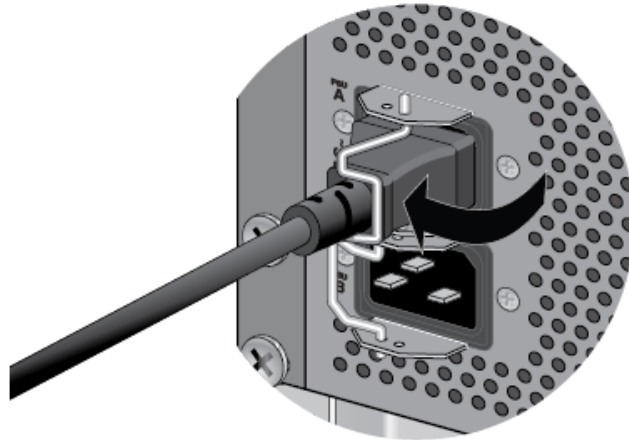

Figure 48. Securing the Power Cord with the Retaining Clip
2. Move the retaining clip over the power cord to secure the cord to the chassis. Refer to Figure 48.